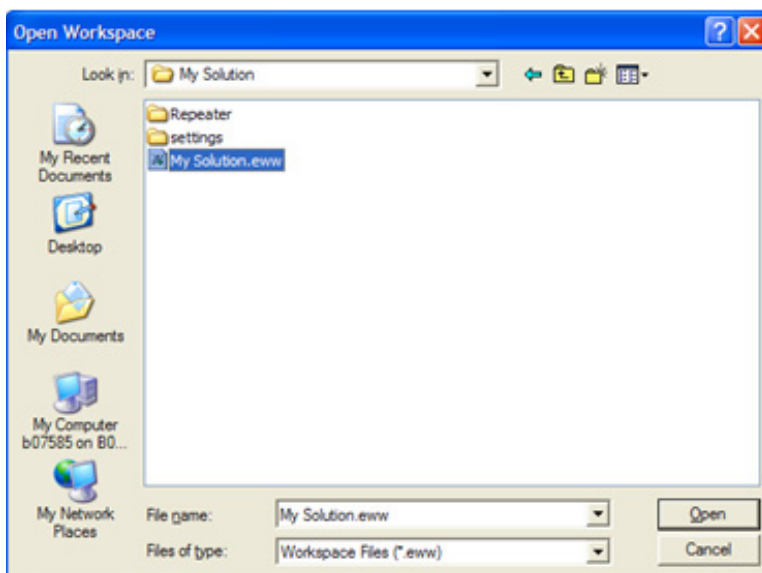

Figure 1-7. Opening a project
1. As shown in Figure 1-7, open the `My Solution.eww` file.